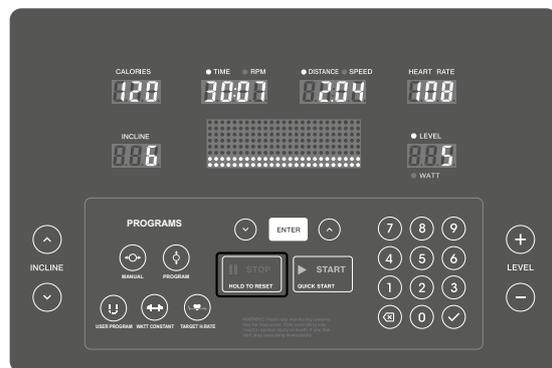

FIGURE 2
2. Press STOP to end the session (Figure 2).